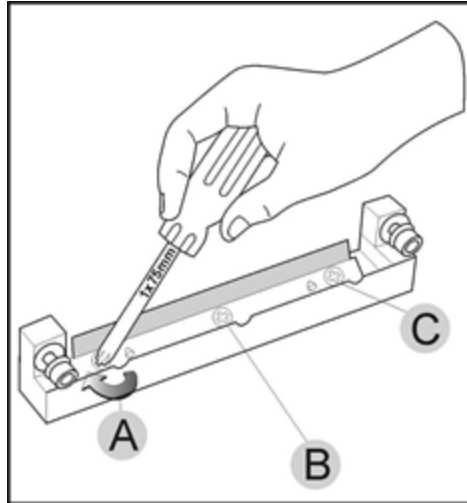

Figure 6-42 Tightening the roller scraper screws
- Tighten the screws in the order shown in Figure 6-42.